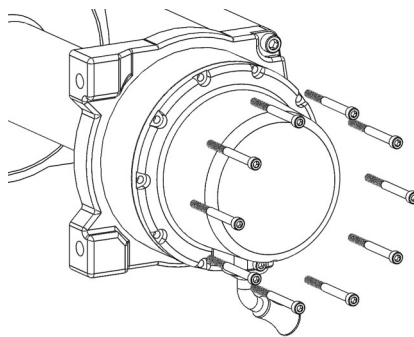

Figure 6B
- B. Rotate the assembly clockwise so that the handle can be reached from the bottom driver side of the bumper. (Figure 6B)(NOTE: Use caution not to lift or separate the assembly more than a few millimeters while rotating to avoid unmeshing of the gears.)